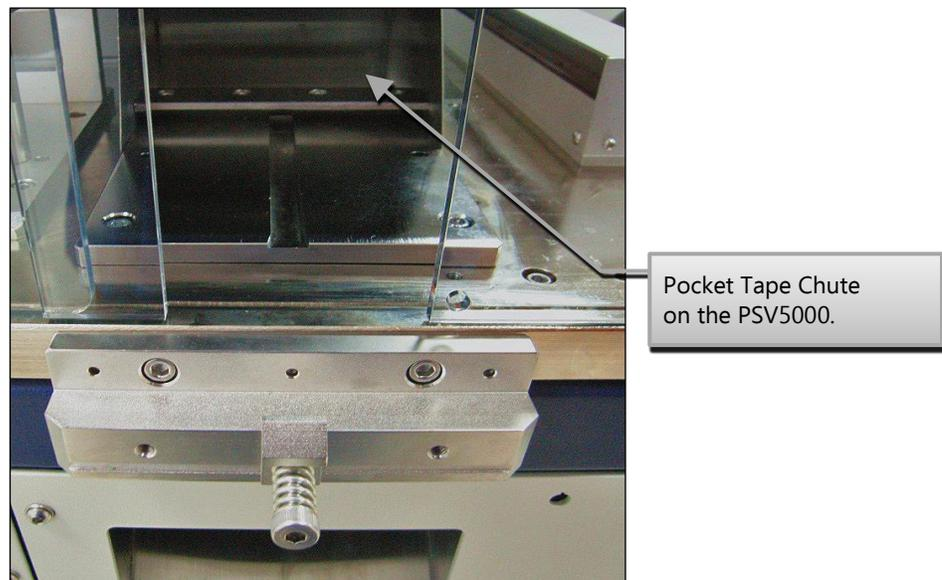
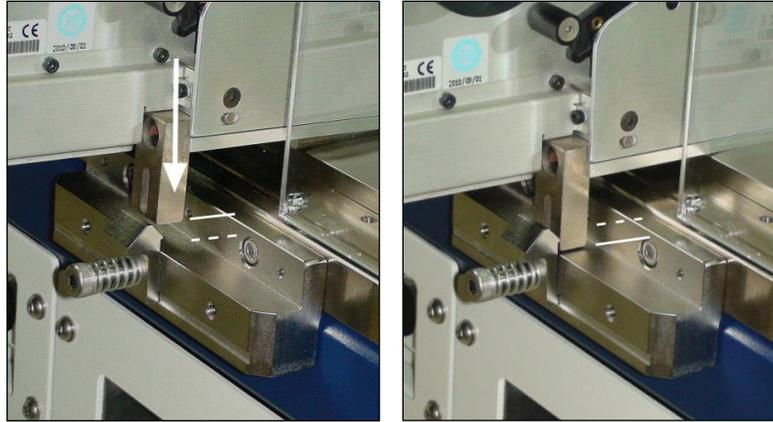

Figure 8: The Tape-In slot and spring clamp on PSV5000.
Figure 9: A. Push the mounting block of the Feeder down into the clamp. B. Feeder has snapped into place.
4. With the feeder in the channel, slide it inward. When the feeder reaches the spring latch, lift it over to the far side of the latch and push down to secure. Refer to Figure 8: and Figure 9: .